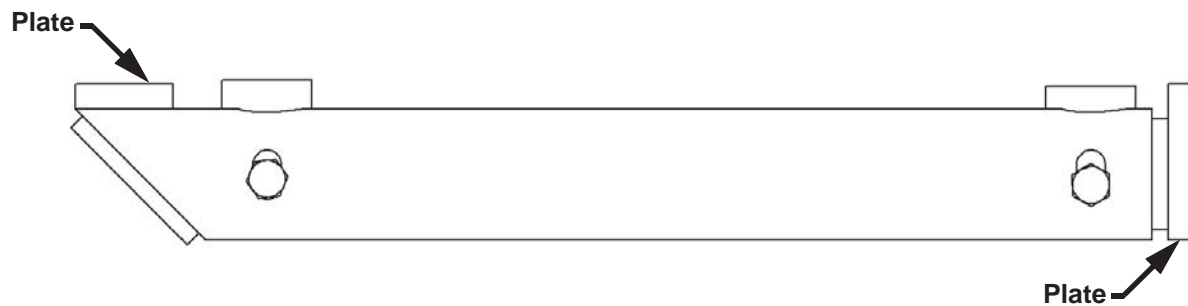

Figure 3: Limit Switch Guard with Plates
2. To minimize the risk of getting a line behind the guard, a plate/bar can be welded to the limit switch guard as shown in Figure 3. Remove limit switch guard before welding on the two plates/bars. Weld the plate/bar as per Canrig specification ENG 704.